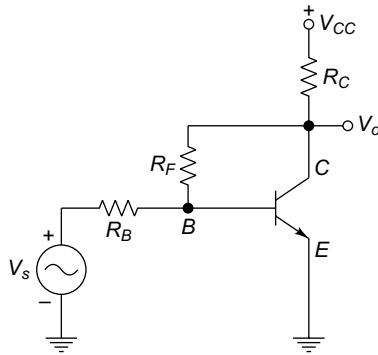

Fig. 2.39
2.17 Figure 2.39 shows the transistor feedback amplifier circuit and it has the following parameters